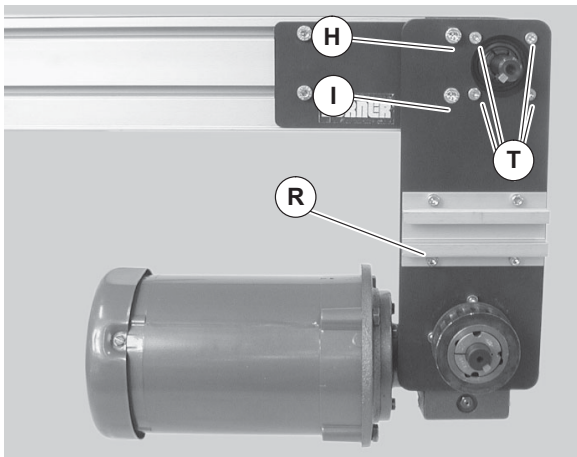

Figure 21
- d. Remove mounting screws (Figure 21, item H, I and T) and remove drive package (R).